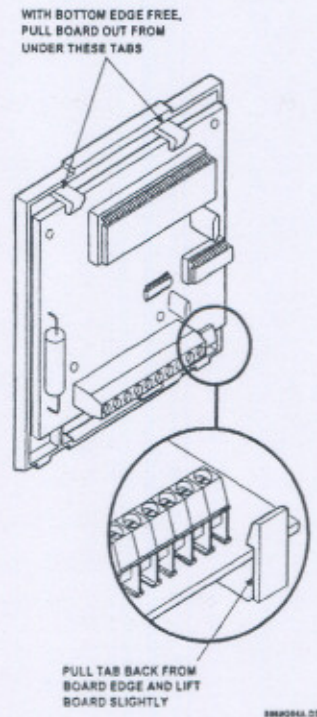

Figure 3. Removing the Circuit Board
- 2) Press down on the lower-right corner of the base until the latch releases the circuit board (see Figure 3).
- 3) Remove the circuit board from the base by gently lifting the board by the terminal strip until the top two latches release the board (see Figure 3).
- 2) Plug the AC adapter cord into the power connector on the VuFone rear panel (see Figure 3).